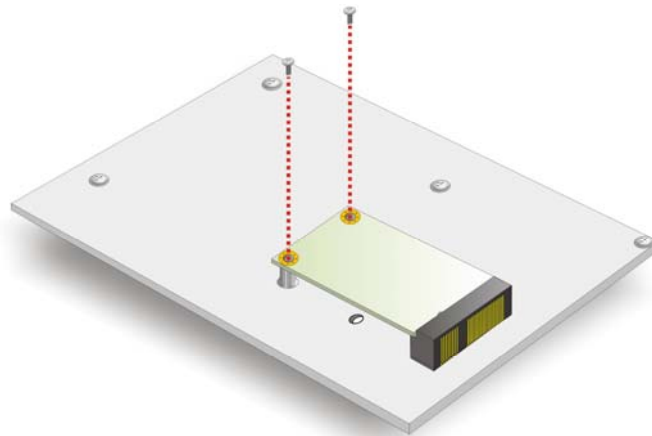

Figure 4-16: Secure the Full-size PCIe Mini Card
Step 4: Secure the full-size PCIe Mini card. Secure the full-size PCIe Mini card with the retention screws previously removed (Figure 4-16).